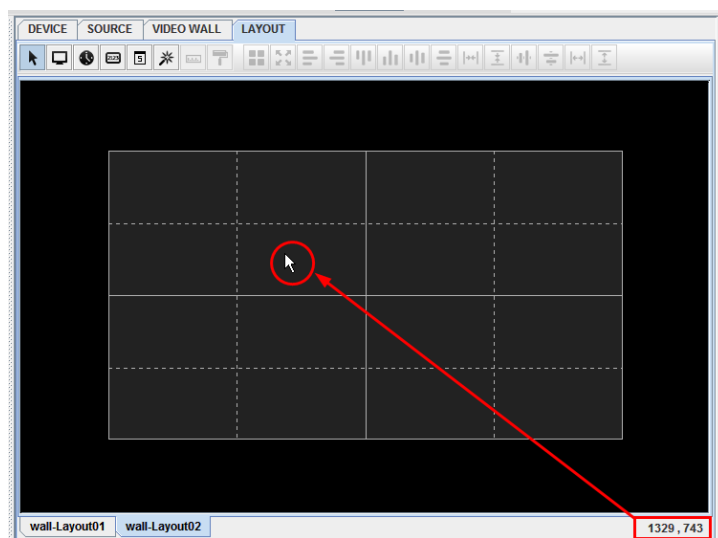

Figure 3.5-71 Coordinates for Mouse Cursor in Working Area for Model Configuration
- The coordinates of the mouse cursor in layout area is displayed at the right bottom corner of the working area for model configuration, as shown in **Figure 3.5-71**.